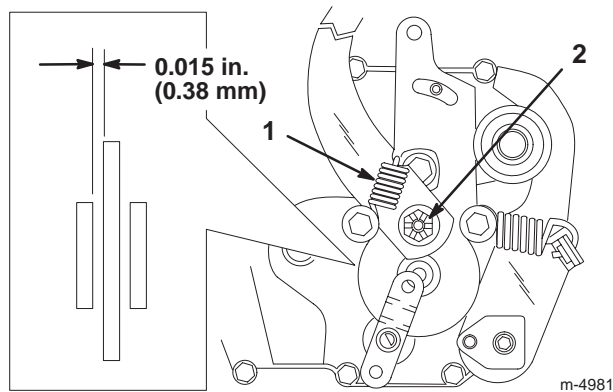

Figure 20
The brake is on the right side of the rear axle, inside the rear tire (Fig. 20). If the brake does not hold securely or stopping power is insufficient, an adjustment is required.
2. Remove the brake arm spring (Fig. 20).
3. Remove the cotter pin that secures the brake adjusting nut and slightly loosen the nut (Fig. 20).
4. Insert a 0.015 in. (0.38 mm) feeler gauge between the brake disc and the brake puck (Fig. 20).